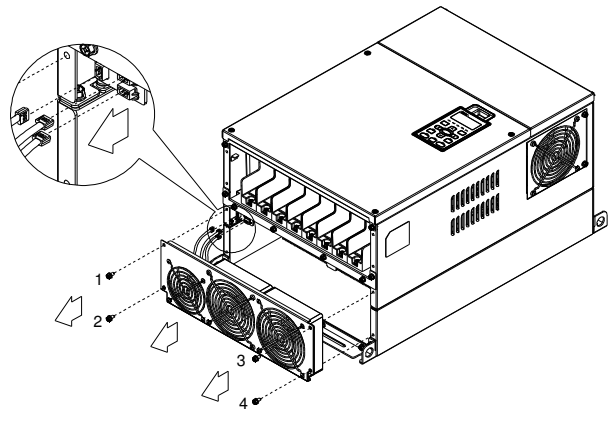

Figure 2
1. Loosen screw 1~4 (figure 2) and disconnect fan power and pull out the fan. (As shown in the enlarged picture 3) Screw1~4 『 Torque : 24~26kgf-cm (20.8~22.6lb-in) 』